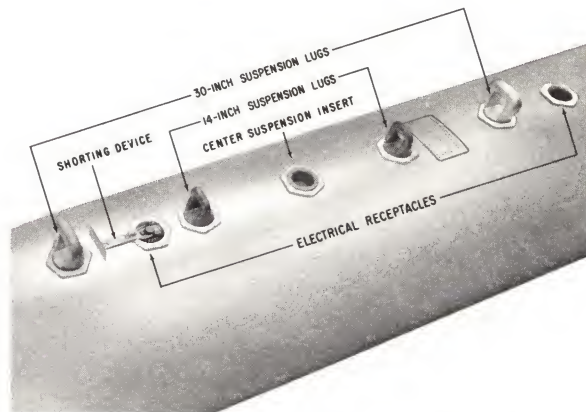

Figure 20 - Section of Launcher Showing Suspension Lugs and Electrical Receptacles.
4. For racks with only 14-inch suspension lugs, Aero 15 series, remove the 30-inch suspension, BuAer Dwg 54A46C358, from the LAU-10/A launcher, figure 20.